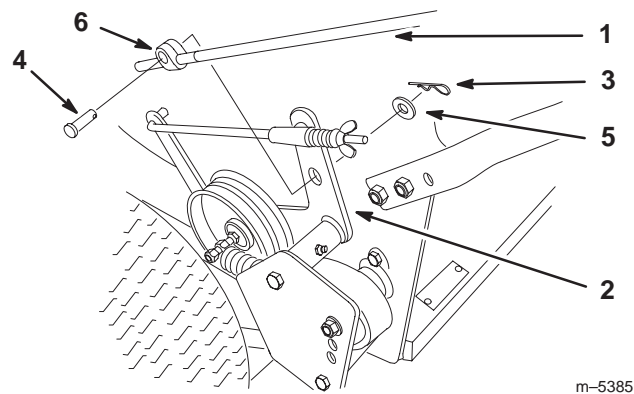

Figure 7
1. Thread rod fittings equal distance onto each control rod (Fig. 7).
2. Install rod fittings with clevis pins into holes in idler brackets (Fig. 7). Secure with washers and hairpin cotters (Fig. 7).
Note: Install rod fittings so the clevis pin is above the control rod, as shown in figure 7.